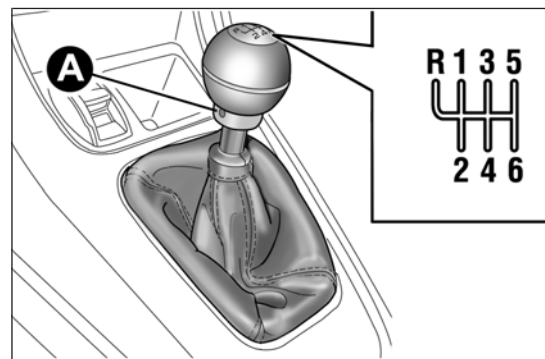

fig. 119
To engage the gears, press the clutch pedal fully and put the gear lever into the required position (the diagram is shown on the knob fig. 119).
To engage reverse gear (R) from the neutral position, lift up ring A fig. 119 and simultaneously move the lever to the left and then forwards.